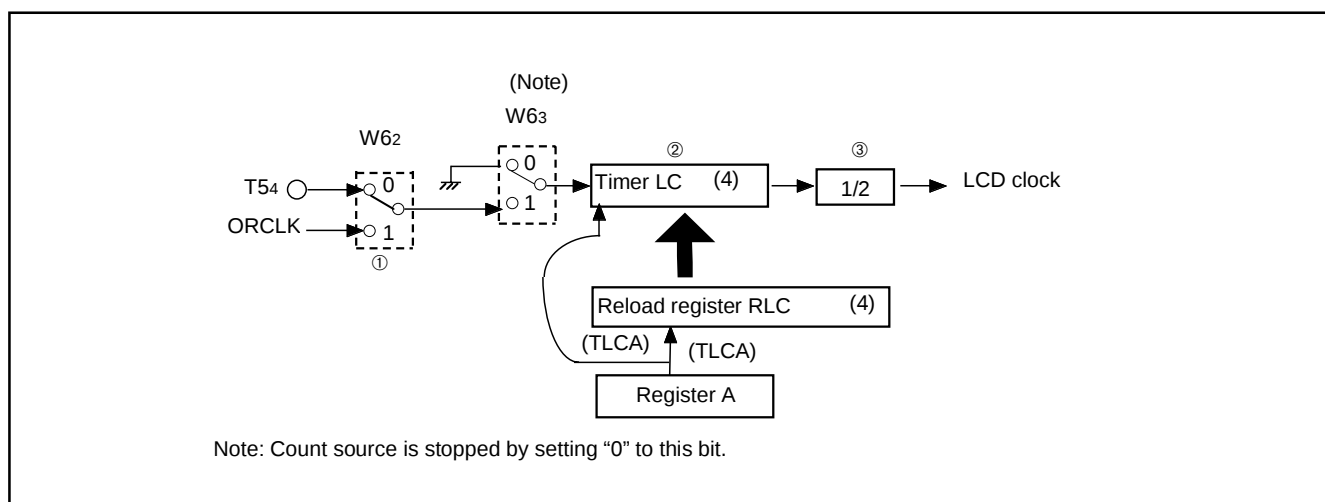

Fig. 33 LCD clock control circuit structure
(2) LCD clock control
The LCD clock is determined by the timer LC count source selection bit (W62), timer LC control bit (W63), and timer LC. Accordingly, the frequency (F) of the LCD clock is obtained by the following formula. Numbers ① to ③ shown below the formula correspond to numbers in Figure 33, respectively.